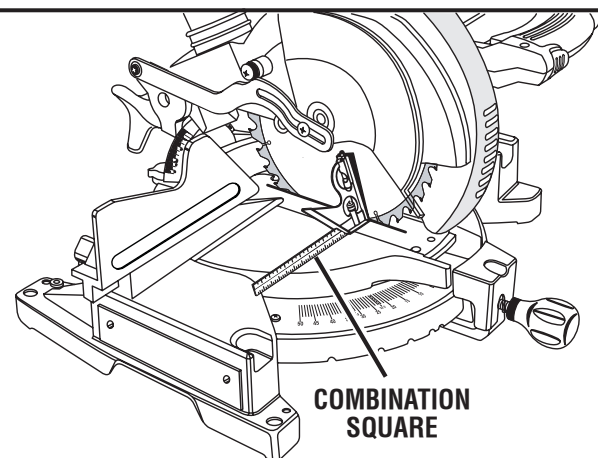

Fig. 20
- If the top or bottom of the saw blade angles away from the square as shown in figures 20 and 21, adjustments are needed.